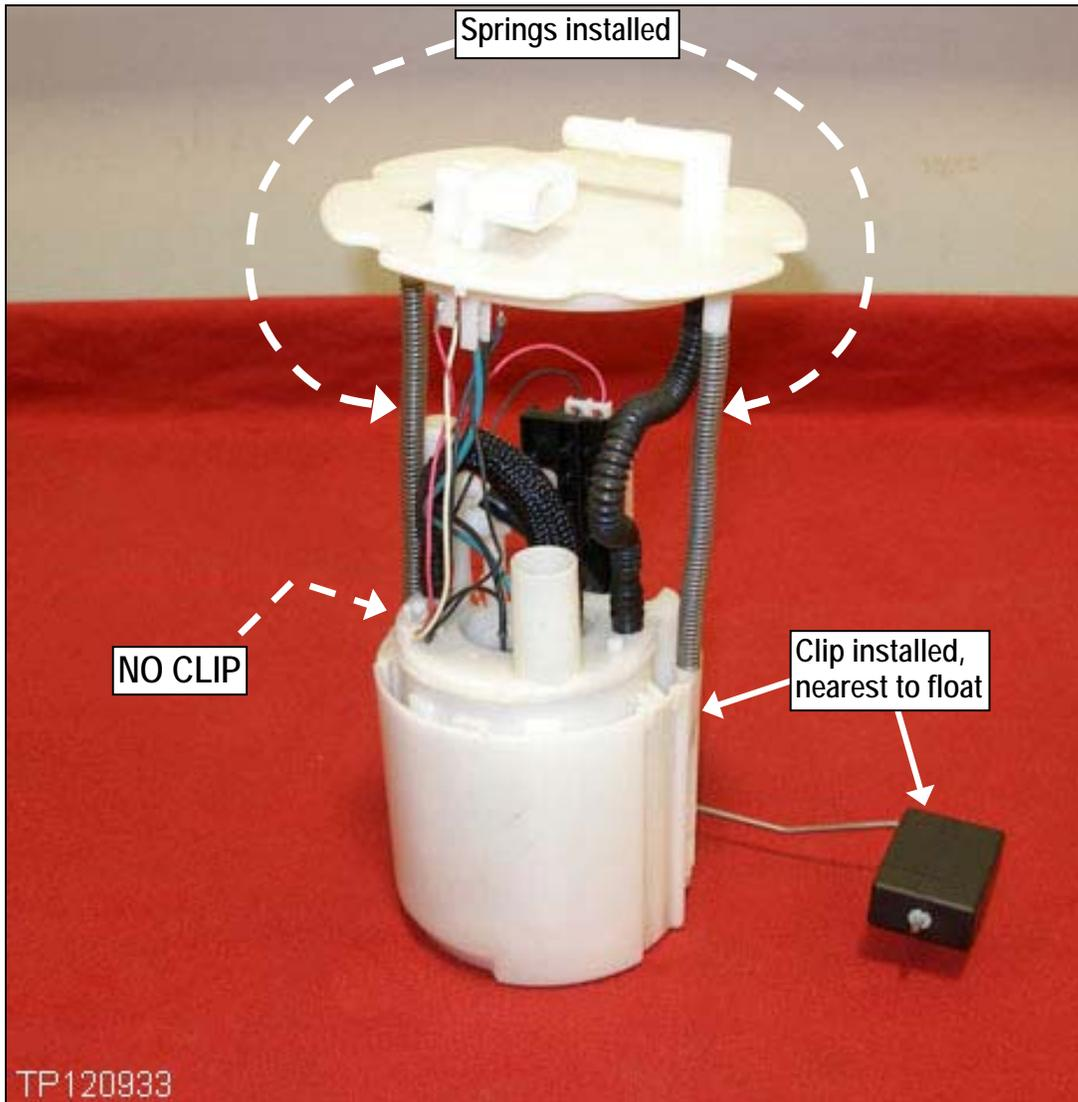

Figure 5: Fully assembled, viewed from backside.
3. Install two (2) new springs (see **PARTS INFORMATION**), one on each rod.
5. Reinstall the clip at its original location, nearest to the float (see next page, Figure 5).